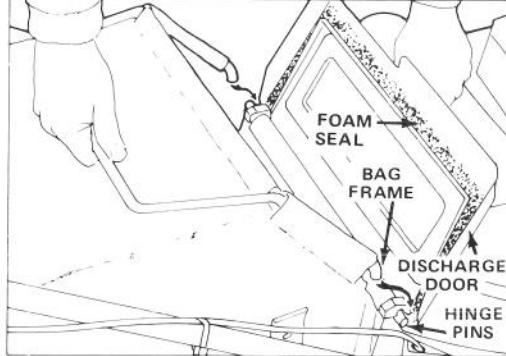

Figure 13
2. INSTALLING BAG — Raise discharge door and hook bag frame onto hinge pins (Fig. 13). Allow bag to rest on mower housing over discharge opening. Close door and make sure it seals around top of bag opening.